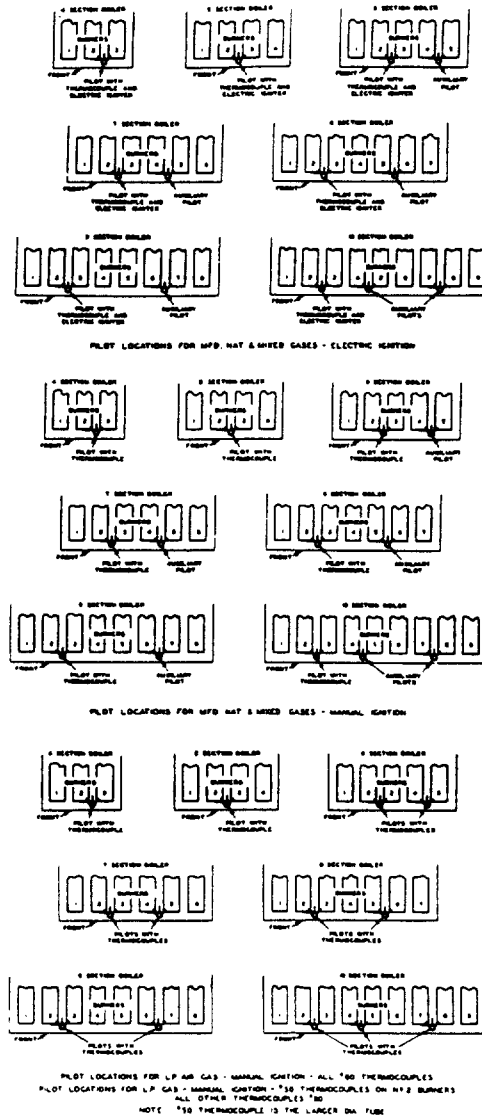

FIG. 5—Burner and Pilot Locations
3. See that air shutter is assembled on each mixer tube, then place mixer tubes firmly on gas cocks or spud holders and burner support. Assemble main burners on tapered ends of mixer tubes so they are straight and level. (See Figs. 5, 6, 7 and 8).